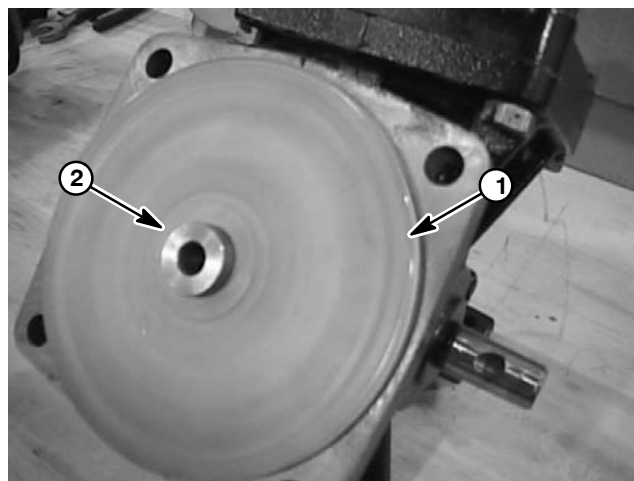
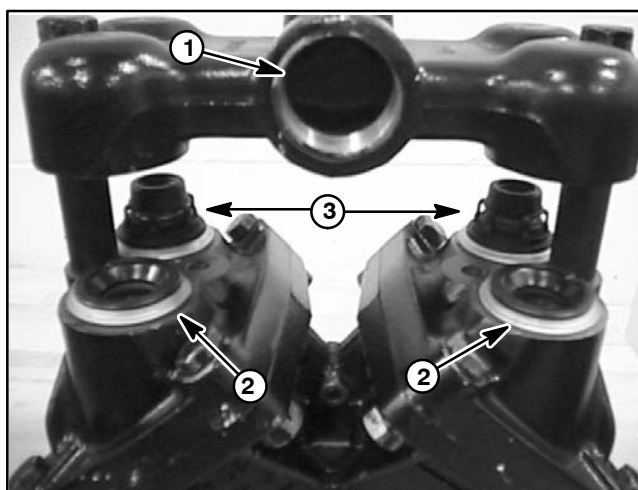

Figure 12
Figure 13
4. Place diaphragm back disc and new diaphragm onto each connecting rod. The connecting rods should extend above the diaphragms when correctly installed (Fig. 12). Position nylon washer and washer on each connecting rod and then thread hex bolt into connecting rod. Torque bolt to 60 ft-lb (80 N-m).
5. Make sure that pump casings align and then secure pump casing assembly by torquing five (5) bolts to 32 ft-lb (44 N-m).
7. Place new o-rings and valves into diaphragm cover openings (Fig. 13). Inlet valves should be installed with the spring down into the cover. Outlet valves should be installed in with the spring up and away from cover.
8. Place valve chamber over valves noting orientation of chamber inlet and outlet. Secure valve chamber with two (2) hex bolts. Torque bolts 60 ft-lb (80 N-m).